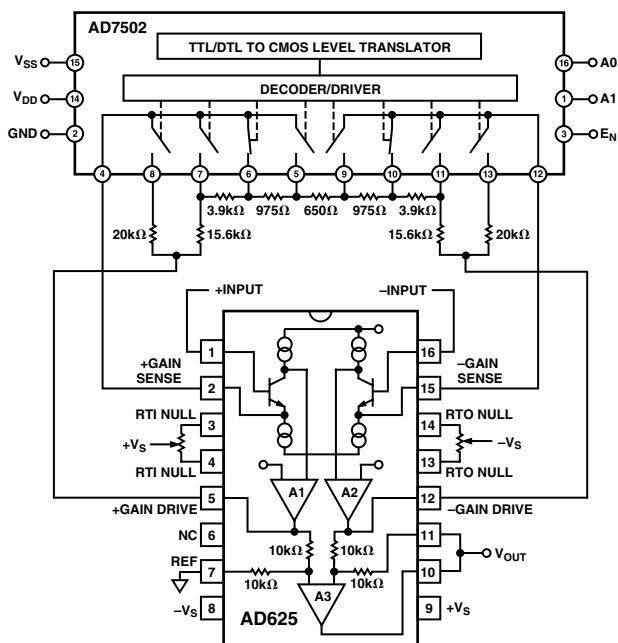

Figure 38. SPGA in a Gain of 16
Figure 38 shows an AD625 based SPGA with possible gains of 1, 4, 16, 64. R_G equals the resistance between the gain sense lines (Pins 2 and 15) of the AD625. In Figure 38, R_G equals the sum of the two 975 Ω resistors and the 650 Ω resistor, or 2600 Ω . R_F equals the resistance between the gain sense and the gain drive pins (Pins 12 and 15, or Pins 2 and 5), that is R_F equals the 15.6 k Ω resistor plus the 3.9 k Ω resistor, or 19.5 k Ω . The gain, therefore equals:
can be used to calculate the necessary feedback resistors for any set of gains. This formula yields a network with a total resistance of 40 kΩ. A dummy variable (j) serves as a counter to keep a running total of the preceding feedback resistors. To illustrate how the formula can be applied, an example similar to the calculation used for the resistor network in Figure 38 is examined below.
- 2) Before making any calculations it is advised to draw a resistor network similar to the network in Figure 41. The network will have $(2 \times M) + 1$ resistors, where M = number of gains. For Figure 38 M = 3 (4, 16, 64), therefore, the resistor string will have seven resistors (plus the two 20 kΩ “side” resistors for unity gain).
- 5) If different resistor values are desired, all the resistors in the network can be scaled by some convenient factor. However, raising the impedance will increase the RTO errors, lowering the total network resistance below 20 kΩ can result in amplifier instability. More information on this phenomenon is given in the RPGA section of the data sheet. The scale factor will not affect the unity gain feedback resistors. The resistor network in Figure 38 has a scaling factor of $650/625 = 1.04$, if this factor is used on R_{F_1} , R_{F_2} , R_{F_3} , and R_G , then the resistor values will match exactly.